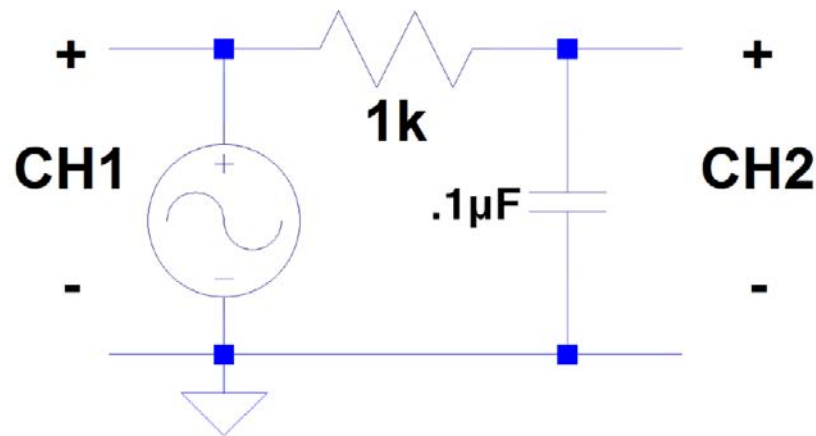
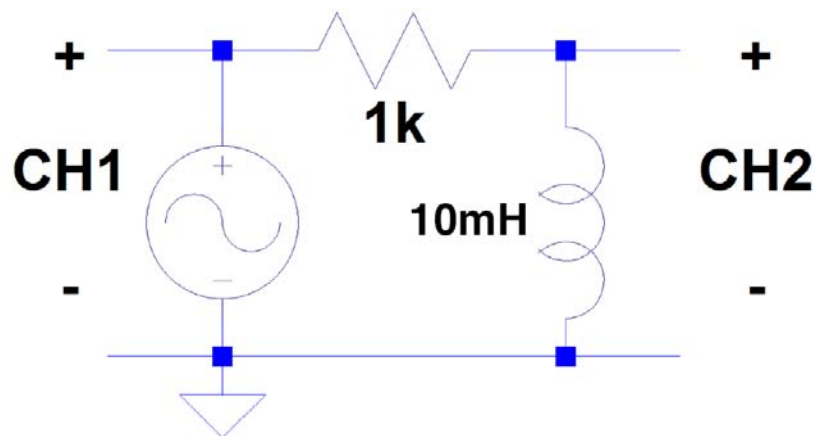

Figure 2.5: Schematic of Capacitive Circuit
Figure 2.7: Schematic of Inductive Circuit
To demonstrate this, construct the circuit shown in Figure 2.5 using a $5V_{PP}$ sine wave from the function generator as V_S .
To measure the voltage and current in the circuit using the o-scope both channel 1 and 2 need to be connected to the circuit. See figure 2.5 for how to connect the different channels.
Use the same process for the inductive circuit in figure 2.7. Choose a frequency that allows for a phase shift of at least 10 degrees.
1. If you had used a voltage source with 100kHz frequency instead of 1kHz, would your current waveform have been shifted more or less in the inductor circuit, figure 2.7? How about the capacitor circuit, figure 2.5?
2. What value capacitor would you have to add in series with the inductor in figure 2.7 to shift the current waveform until it is back in phase with the voltage and a frequency of 5 KHz?